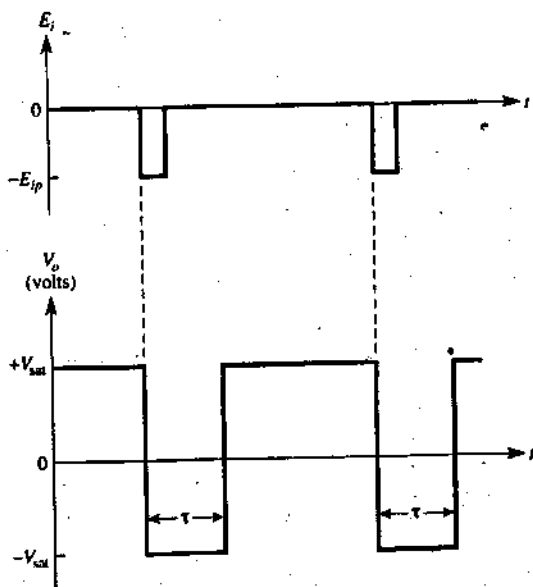

FIGURE 6-3 Input signal  $E_i$  and output pulse of a one-shot multivibrator.
A one-shot multivibrator generates a single output pulse in response to an input signal. The length of the output pulse depends only on external components (resistors and capacitors) connected to the op amp. As shown in Fig. 6-3, the one-shot generates a single output pulse on the negative-going edge of  $E_i$ . The duration of the input pulse can be longer or shorter than the expected output pulse. The duration of the output pulse is represented by  $\tau$  in Fig. 6-3. Since  $\tau$  can be changed only by changing resistors or capacitors, the one-shot can be considered a pulse stretcher. This is because the width of the pulse can be longer than the input pulse. Moreover, the one-shot introduces an idea of an adjustable delay, that is, the delay between the time when  $E_i$  goes negative and the time for  $V_o$  to go positive again. Operation of the one-shot will be studied in three parts: (1) the stable state, (2) transition to the timing state, and (3) the timing state.